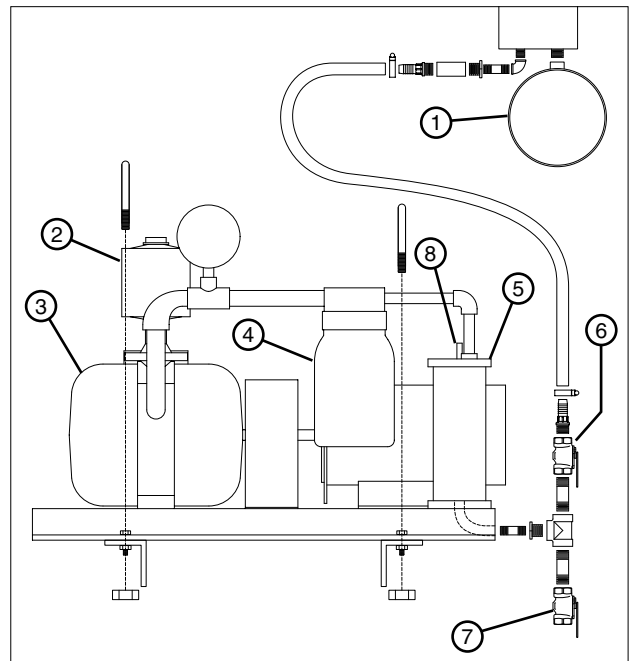

Figure 61-2 1. Suction Inlet Pipe 5. Water Trap
2. Depress the manual plunger on top of the water trap to allow water to draw-down. See Figure 61-2.
3. If necessary, open the drain cock valve for full drainage. See Figure 61-2.